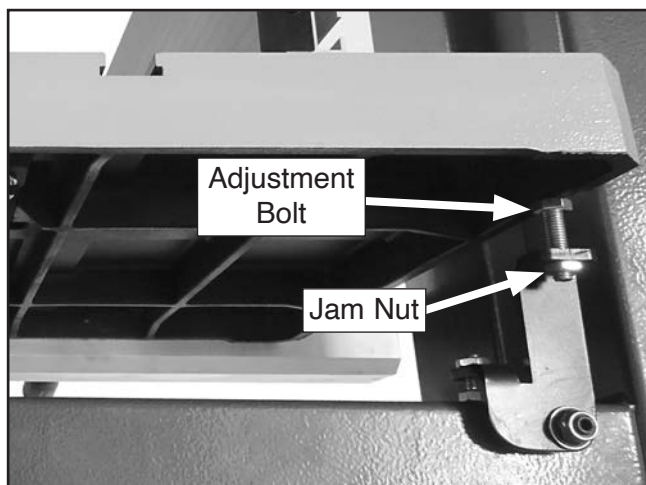

Figure 77. Positive stop in up position.
4. Loosen jam nut, then rotate adjustment bolt until table contacts bolt when at 0 (see **Figure 77**).